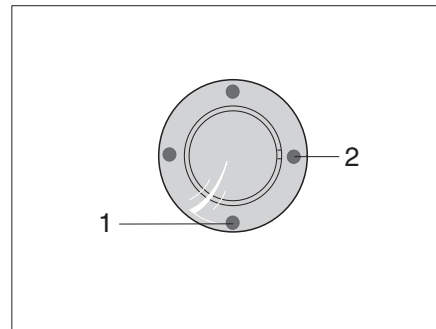
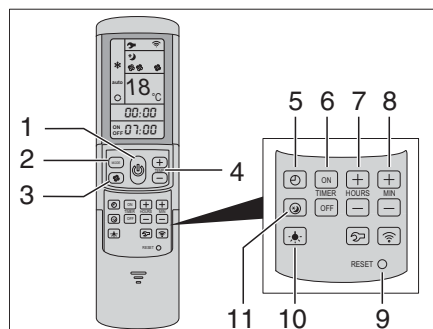

Fig. 120 Infrared receiver/function display
Fig. 121 Remote control
The air conditioning unit is located on the roof of the vehicle. The remote control (Fig. 121) for the air conditioning unit is located in the kitchen area.
- Connect the vehicle to the 230 V power supply. The air conditioning unit is ready to operate. The blue LED (Fig. 120,1) lights up.
- To switch on press the button (Fig. 121,1) on the remote control. The blue LED (Fig. 120,1) flashes.
- Set the desired operating mode using the MODE button (Fig. 121,2).
- If necessary, set the desired fan level by using the button (Fig. 121,3) and the room temperature by using the buttons (Fig. 121,4).
In cooling operation: When the temperature set on the remote control is reached, the blue LED (Fig. 120,1) goes out, the compressor switches off and the circulation fan continues to run.
In heating operation: When the temperature set on the remote control is reached, the yellow LED (Fig. 120,2) goes out, the compressor switches off and the circulation fan continues to run. If the room temperature drops below the set room temperature, the device switches automatically back to heating operation.
- To switch off press the button (Fig. 121,1) on the remote control again.
- To carry out programming, switch on the air conditioning unit by using the button (Fig. 121,1) on the remote control.
- Set the desired operating mode by using the button (Fig. 121,2) and the room temperature by using the buttons (Fig. 121,4).
- Use the buttons (Fig. 121,6) to select the desired function:
- Use the buttons (Fig. 121,7 and 8) to select the desired switching time (15 minutes to 24 hours).
- Confirm the setting with the buttons "ON" or "OFF" (Fig. 121,6).